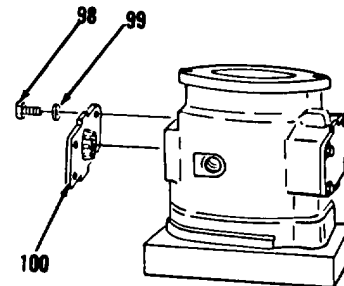

Figure 10-50.
17. Remove four of eight bolts (98), lockwashers (99) and the cover (100, Figure 10-50) without shim(s).